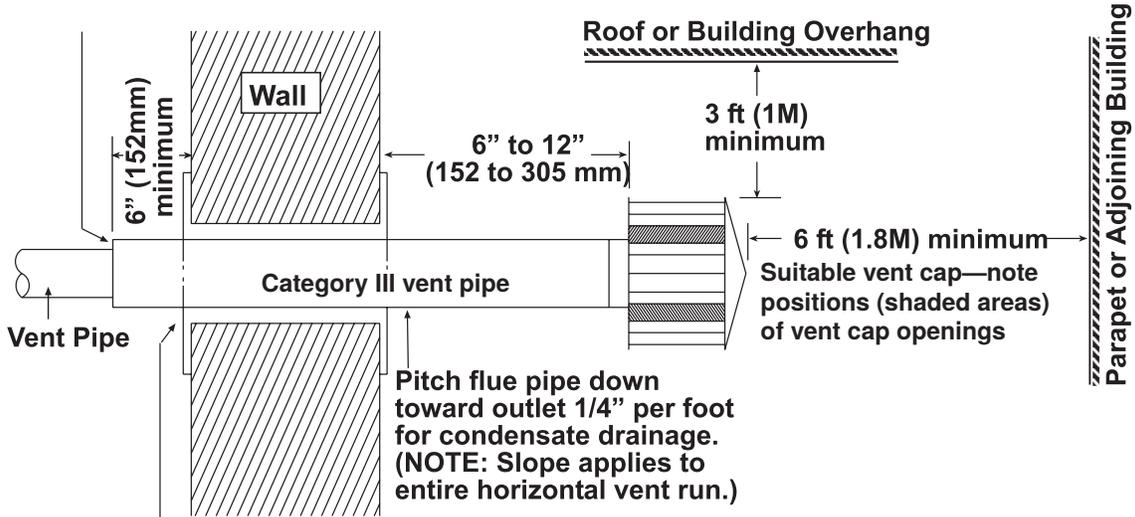

Figure 9. Horizontal Vent Terminal (Commercial/Industrial Installations)
- (1) Install double-wall Type B terminal vent pipe (in accordance with pipe manufacturer's requirements) and terminate vent with suitable vent cap.
- (2) Refer to instructions shown in Figure 9 to install horizontal vent terminal.
- (4) Ensure that vent terminal is installed in accordance with Vent Terminal Requirements section.
- b. If using vent pipe approved to UL standard 1738 for Category III appliances, install the Category III vent system in accordance with manufacturer's instructions. Ensure that required distances shown in Figure 9, Figure 10, and Vent Terminal Requirements section are implemented.